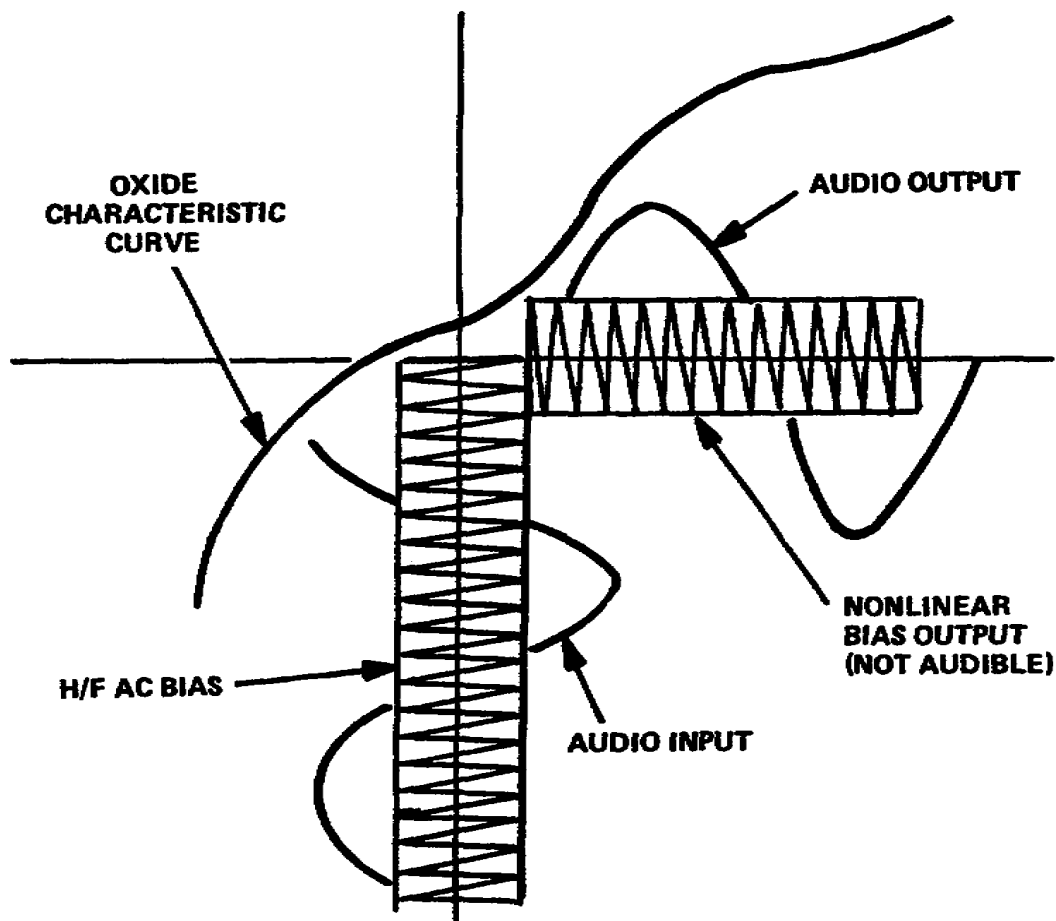

Figure 3-33. Bias current applied to audio signal
(2) As audiotape moves across the recordhead, molecules on the tape orient themselves with the direction of a magnetic field. The magnetic field is directly proportional to the audio signal being fed to the record head. This audio signal reaches the tape from the record head with unnecessary distortion or quality loss by a carrier signal commonly referred to as the bias.
d. Electronics. Because nonlinearity is a normal characteristic of magnetic tape used for recording sound, the transfer of the audio signal from the record head onto the magnetic tape is not in direct proportion and results in severe distortion of the signal (fig 3-33).